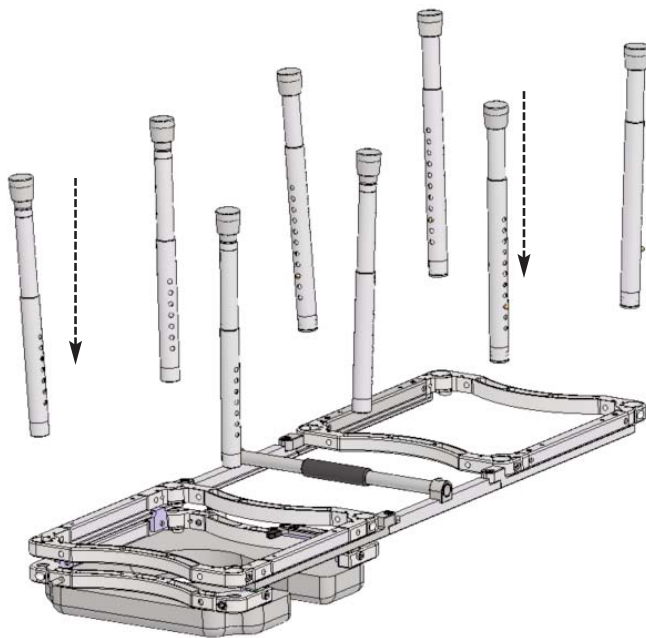

Figure 2
**C** Position the frames upside down and install the legs (Refer to Figure 2)
**D** Position the legs so that the brass buttons point outward (Making it easier for future leg height adjustment). Make sure that the legs slide "home" into the socket of the seat frame. Use the included 1/4" Allen wrench to securely tighten the bolts located at the corners of the frame (Refer to Figures 2 & 3).